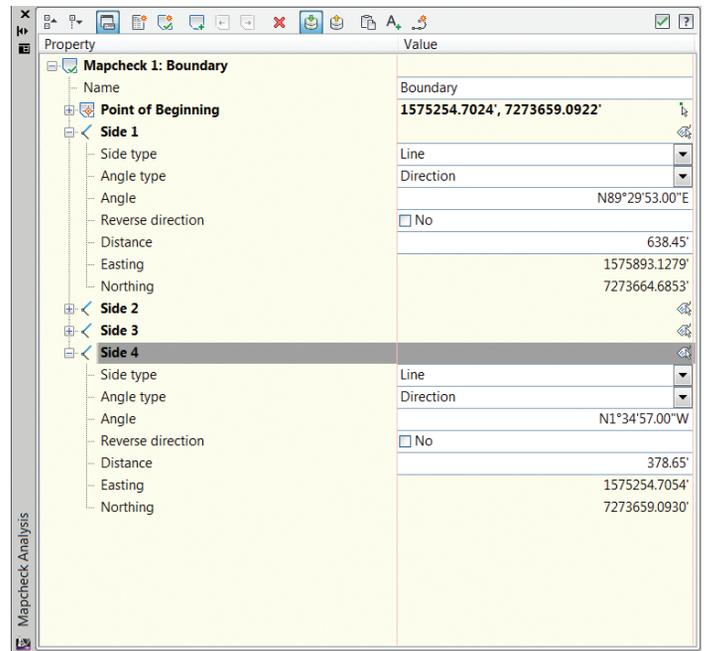

Figure 4: Mapcheck Analysis dialog box
8. Your Mapcheck Analysis should look similar to Figure 4.